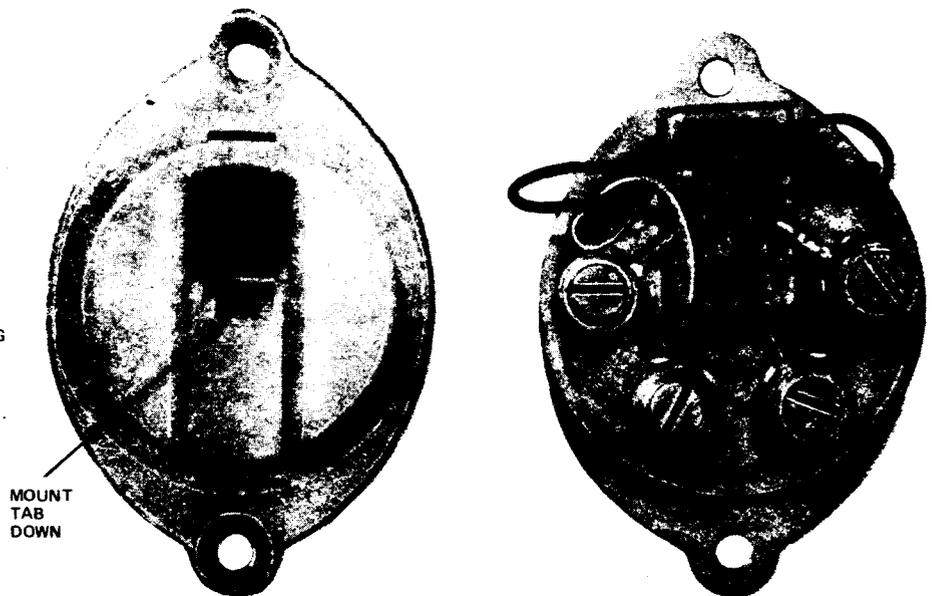

Fig. 8—625F Connecting Block (Without Mounting Hardware)
#### F. 625F Connecting Block (Fig. 8)
2.08 The 625F connecting block (Fig. 8) consists of a jack and terminal block. It is intended for modular replacement for 548A jack or 47F (MD) connecting block. It is intended for flush mounting. The 65A faceplate and 842615544 mounting bracket used in conjunction with this connecting block must be ordered separately. It is available in ivory (-50) and brown (-54).
**3.07 625F Connecting Block:** The 625F connecting block (Fig. 8) is intended for use in converting a nonmodular connecting block to modular.